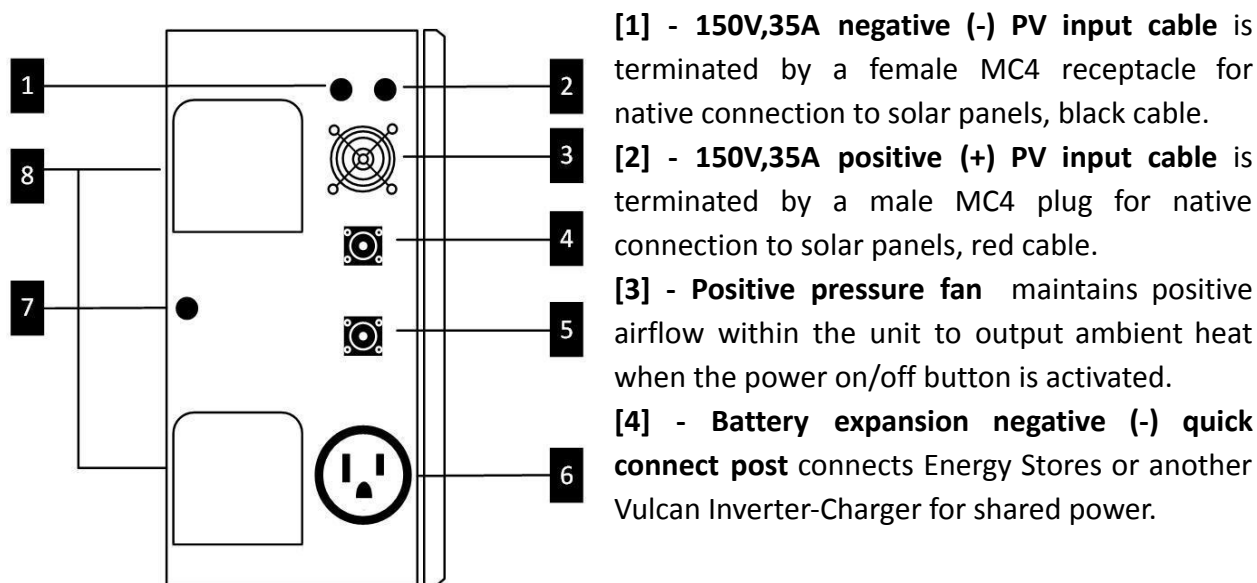

Figure 2. Vulcan rear panel configuration
The Vulcan rear panel is illustrated in **Figure 2**. The rear panel contains the inputs for 120VAC, battery expansion connections and the solar panel(s) input connections.
6. Vulcan can charge its battery(s) and run output loads simultaneously. When using solar panels, **Figure 2. [1]** Vulcan will split the available energy between the load and battery(s) with priority given to the load.